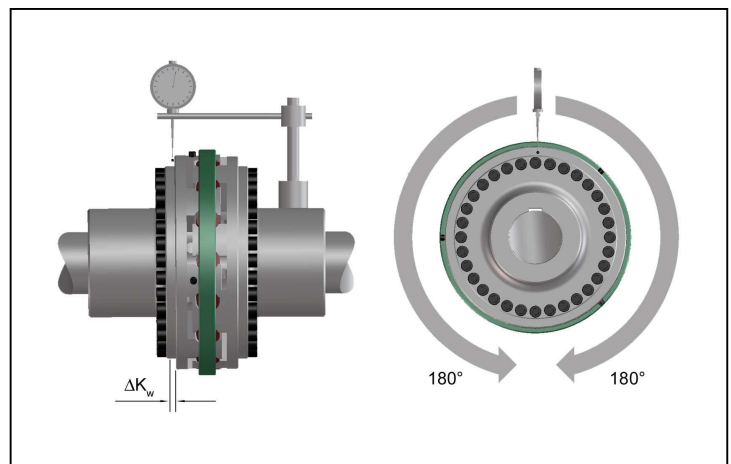

Fig. 8
- Measure one complete rotation (360°) on the face of the outer diameter. Determine the largest deviation K_{w1} and the smallest deviation K_{w2} (Fig. 8).